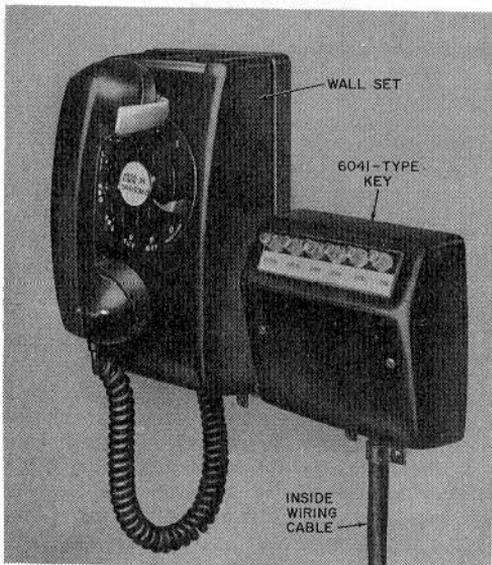

Fig. 4—Typical Installation of 6041-Type Key
2.01 These keys are used in conjunction with a single line telephone set to furnish station control features in 1A, 1A1, 1A2, and 6A KTS (Fig. 4 and 5).